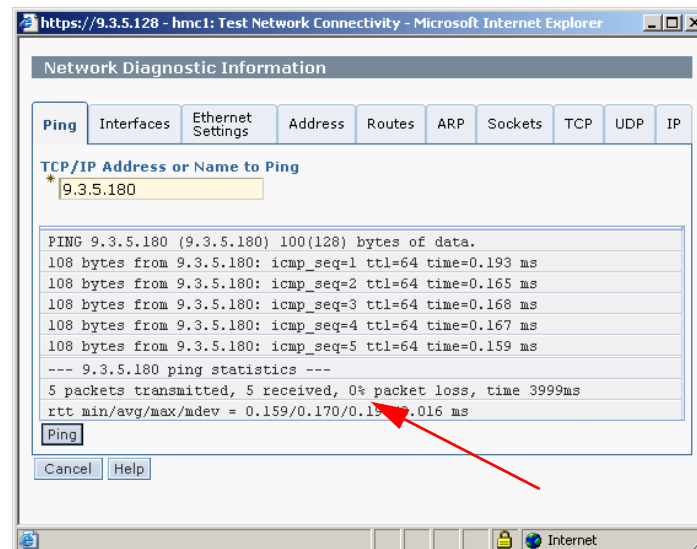

Figure 17-1 Network ping successful to remote HMC
5. Review the results to ensure that certain packets were not lost, as shown in Figure 17-1: